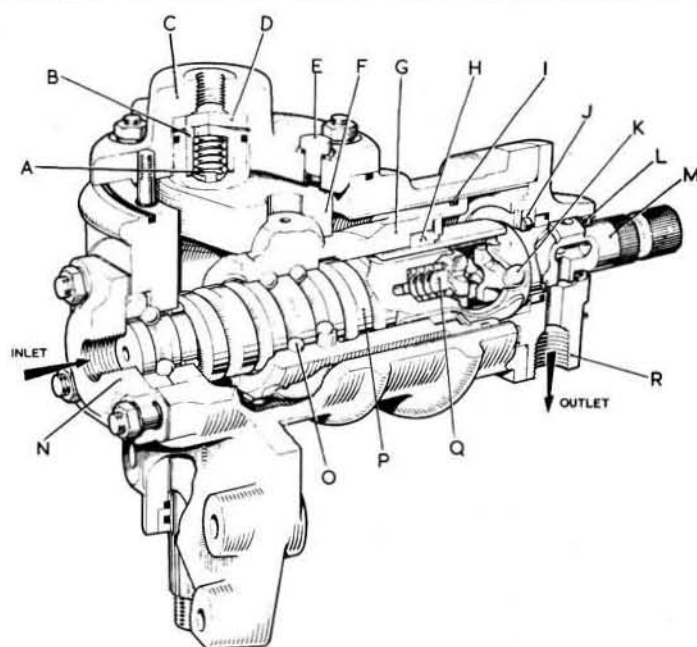

FIG.11.37. SECTIONED VIEW OF THE BURMAN POWER ASSISTED STEERING BOX
A section view of the Burman type steering box is given in Fig.11.37. Hydraulic assistance is applied to a piston which forms part of the nut (G), the piston works within a cast iron cylinder and hydraulic pressure is admitted to one side or the